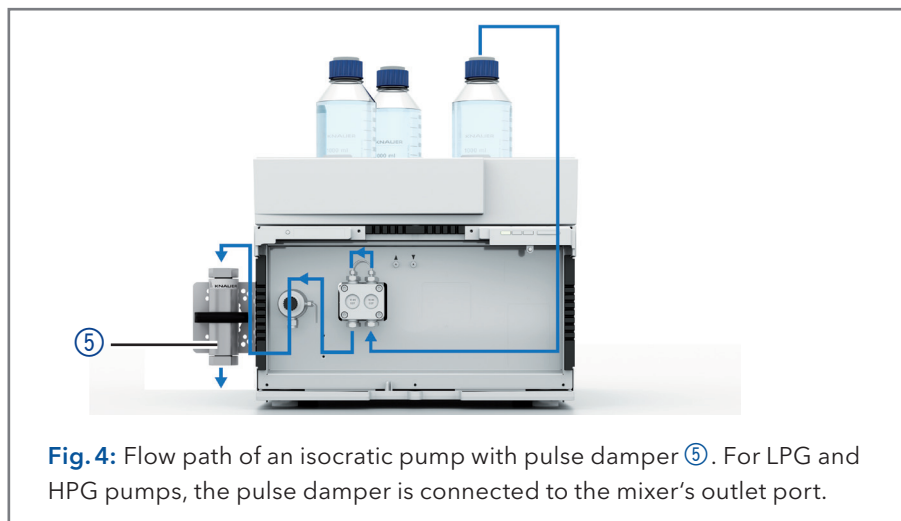

Fig. 4: Flow path of an isocratic pump with pulse damper ⑤. For LPG and HPG pumps, the pulse damper is connected to the mixer's outlet port.
- Connect the capillary with 7.5 Nm torque (stainless steel version) or 1 Nm (PEEK version) according to fig. 4.